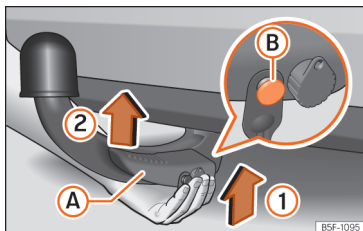

Fig. 266 Putting the tow hook in place. Step 1.
- Hold the tow hook **from below** and fit it into the hook housing in the direction of the arrow » Fig. 266 ① until it is heard to fit into place » ⚠.
Lever » Fig. 266 ① automatically turns in the direction of arrow ② upwards, and the release bolt ② moves outwards (its red and green parts are visible) » ⚠.
- **Keep your hands away from the lever when fitting the tow hook to avoid trapping your fingers » Fig. 266 ①.**